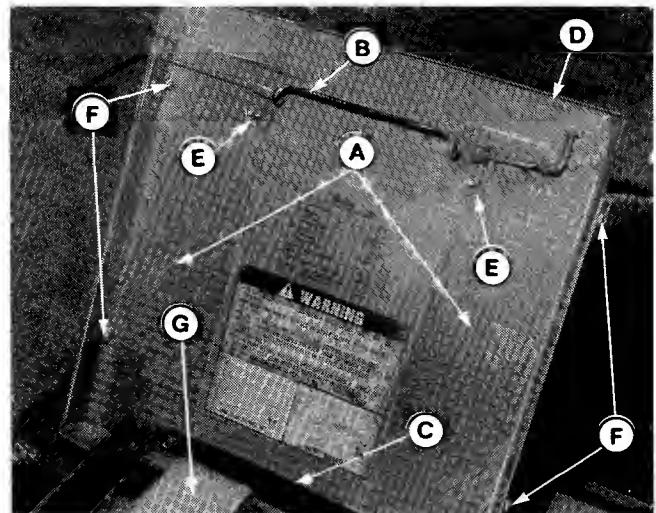
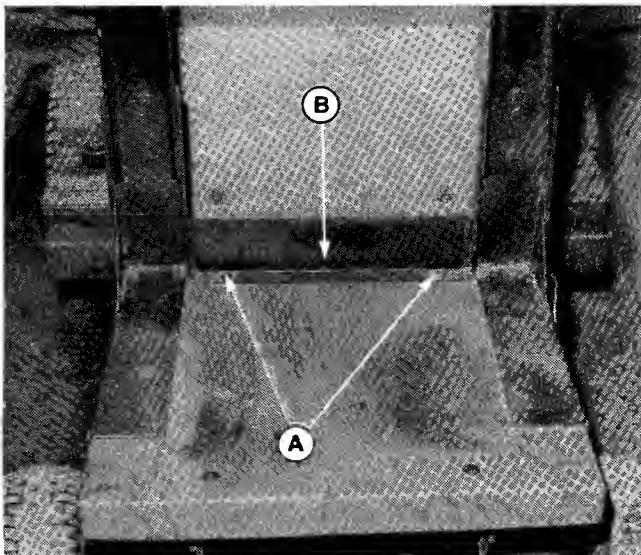

Figure 6.
Figure 7
7. Use only one weight (G, figure 6) when the grass catcher is installed. Place this weight in the center. Also, be sure rear tire pressure is 18 to 22 psi.
8. The hardware for the latch (B, figure 6) and the hinge (C) are used to secure the angle brackets (A) to the bottom of the platform (D). Also the two front bolts (A, figure 7) go through the upper bracket (B). Proceed as follows to install the angle brackets and upper bracket to the platform.
- Remove the platform from the hinge by removing the hardware. Remove the latch (B, figure 6) from the platform.
- Use this existing hardware to attach upper bracket (B, figure 7), angle brackets (A, figure 6), and latch (B) to the platform. Use the same hardware, except add the two supplied 5/16" washers (E, figure 6) (against angle brackets).
- Insert the four supplied 1/4-20 x 3/4" capscrews (F, figure 6) through angle bracket, platform, and upper bracket. Install the 1/4" lockwasher and nuts onto the capscrews.
- Attach the platform (D, figure 6) to the hinge (C) with the original hardware.
4. Use two rear weights (G, figure 6) to operate without catcher. Place one on each side.